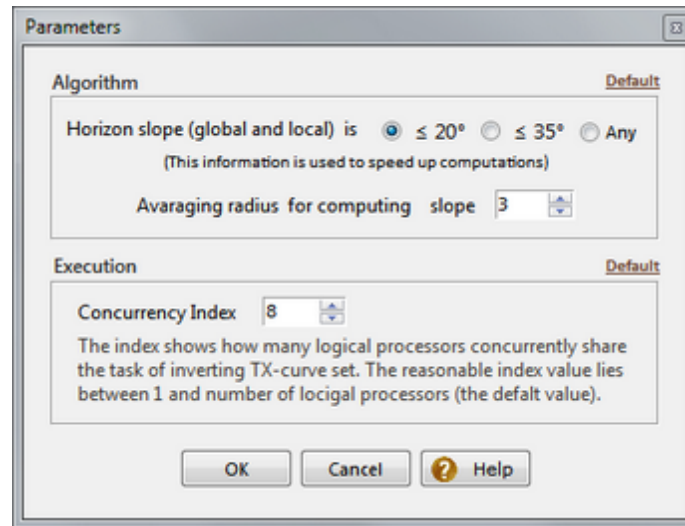

Fig. 2. Dialog for setting execution parameters.
4. *Adjust execution parameters*. In the *Options* menu select *Parameters*. The command displays the dialog shown on fig. 2. On the *Algorithm* panel the user defines parameters affecting inversion algorithm. The first one stores a priori information about horizon slope (both local and global). For the first inversion always use the default value 20° , the more so that it usually
Reflector Builder treats inversion of one TX-Curve as an elementary job and runs for that the special module: *Inverter*. Its product is a segment of the reflector. Inverter is attached to one logical processor of the system. Reflector Builder runs simultaneously N inverters, where N is the value of the *Concurrency index* parameter (fig. 2). By default, N equals the number of available logical processors. When the session is under way, source IDs of elementary jobs currently being processed are displayed above the progress bar. Segments obtained by Inverters are sewed together by Reflector Builder to get the entire horizon.
To preview the horizon, the *View/Horizon* command launches the Horizon Previewer module (HPV). This is a graphic module displaying model image and capable of drawing over it any curve from the horizon database. Fig. 2 shows a fragment of the HPV main window.